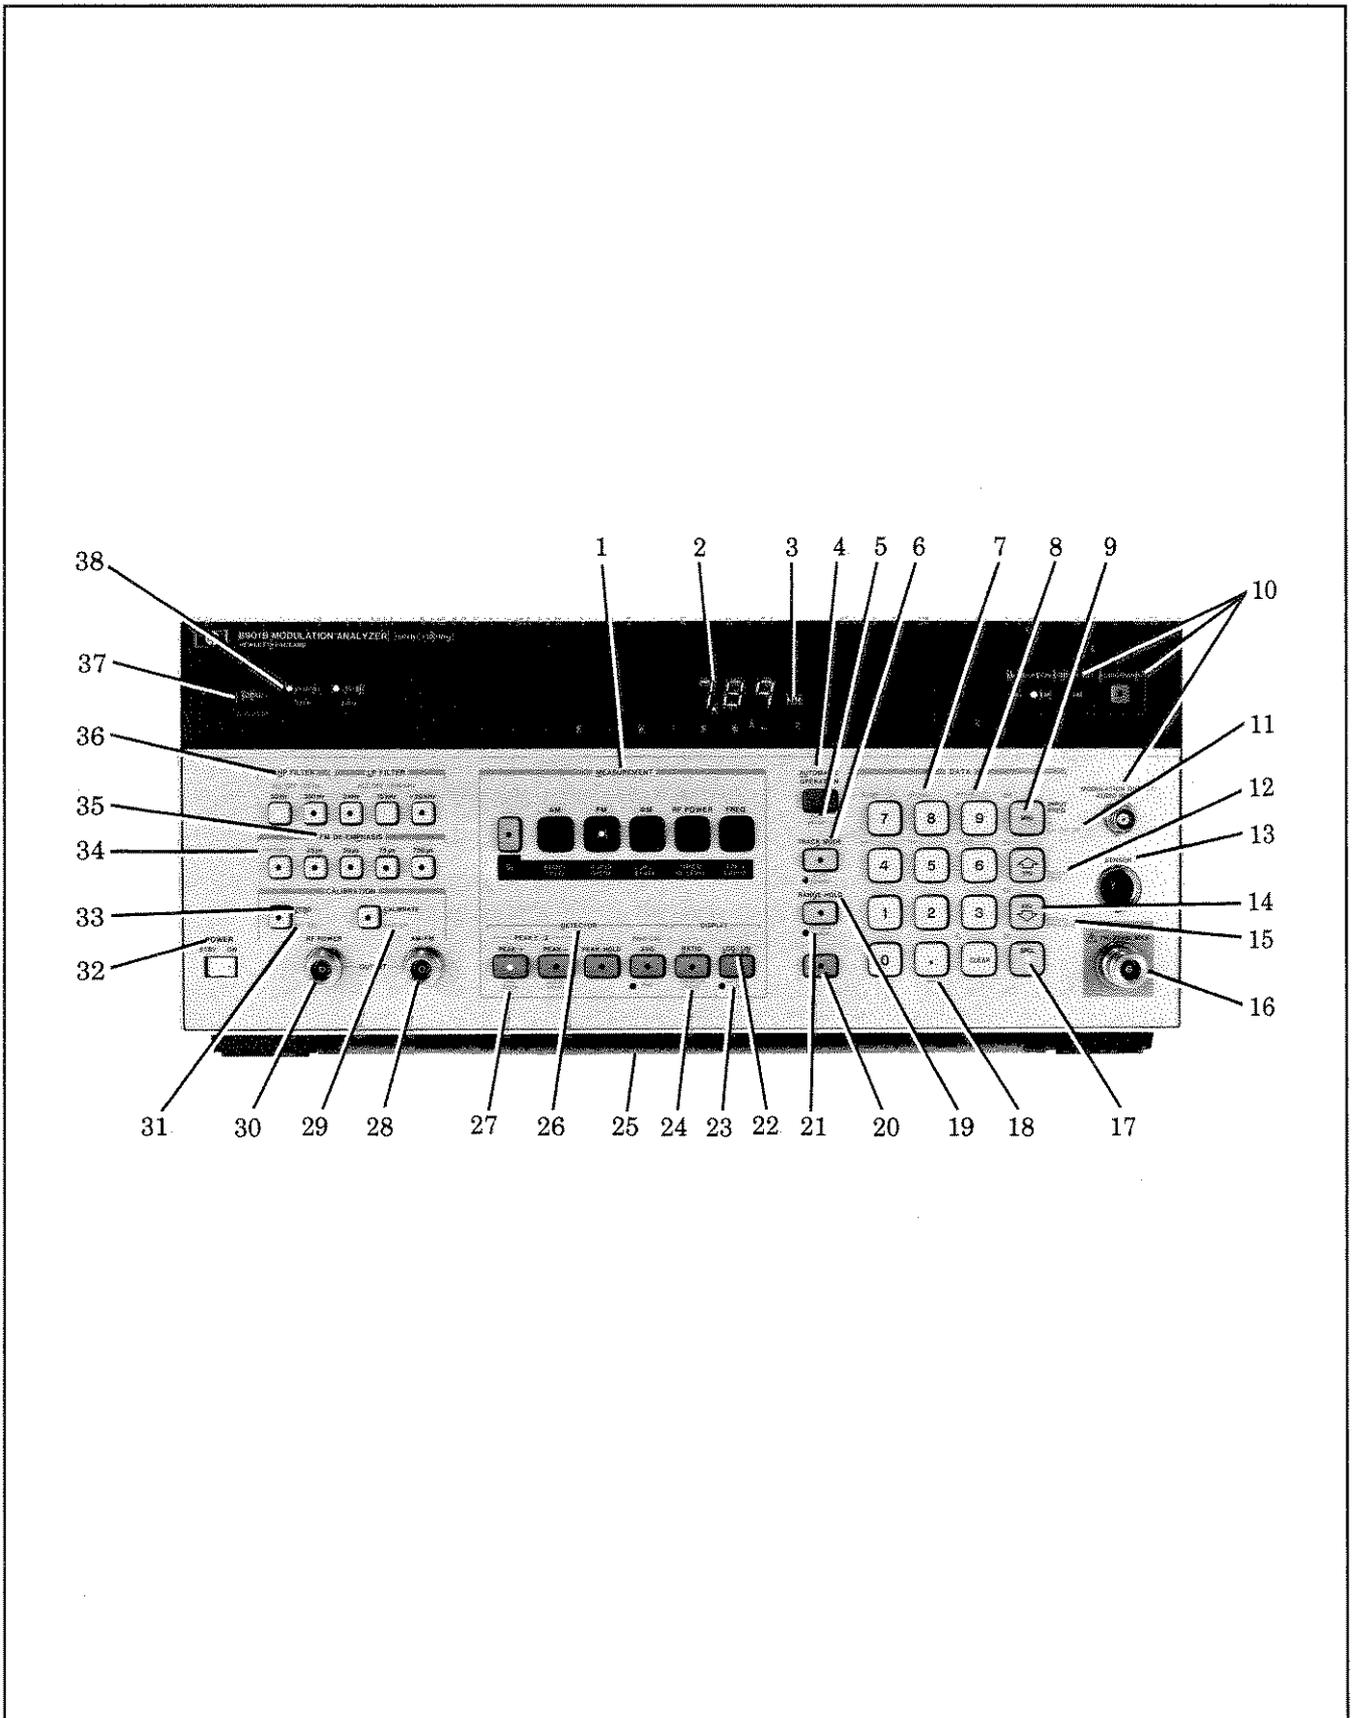

Figure 3-1. Front-Panel Features
Front-panel controls, indicators, and connectors are illustrated and referenced to text in Figure 3-1. The text for this figure describes the various functions of the Modulation Analyzer. At the end of each description is a reference to a detailed operating instruction that contains more details on this topic.
6. MODULATION OUTPUT/AUDIO INPUT is a rear-panel output and input supplied on Option 001 instruments. Refer to MODULATION OUTPUT/AUDIO INPUT referenced from Figure 3-1.
7. SENSOR is a rear-panel input for the power sensor supplied on Option 001 instruments. Refer to SENSOR referenced from Figure 3-1.
8. INPUT is a rear-panel input for the RF input signal. This input is supplied on Option 001 instruments. Refer to INPUT referenced from Figure 3-1.
16. CALIBRATION OUTPUT RF PWR and AM/FM produces a rear-panel output for RF Power and AM and FM calibrators. This output is supplied on Option 001 instruments instead of the standard front-panel connection. Refer to both CALIBRATION RF POWER OUTPUT and CALIBRATION AM/FM OUTPUT referenced from Figure 3-1.